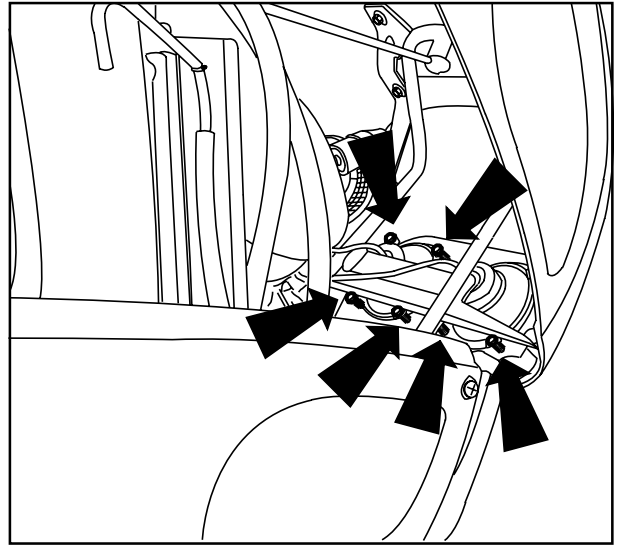

Fig.5-44
Checking headlight alignment (Fig. 5-44 and 5-45).
- Adjust the headlight alignment screws to correct alignment as necessary (Fig. 5-44).